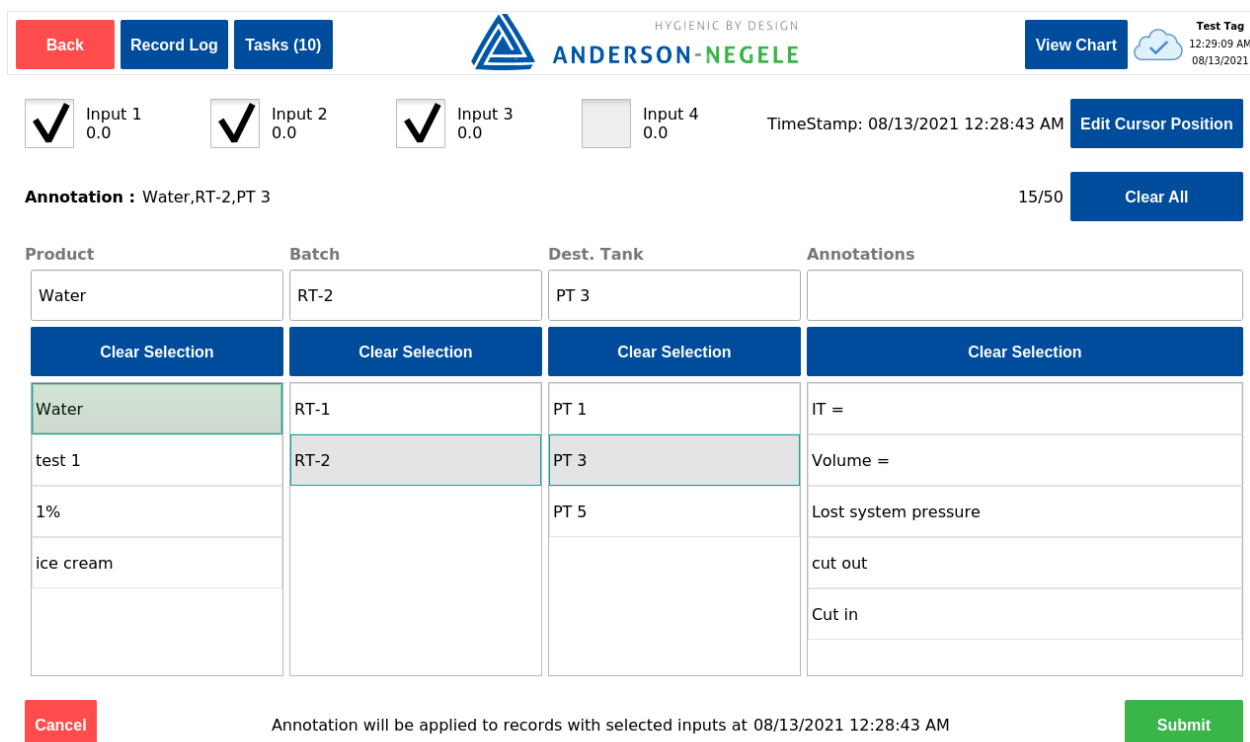

Figure 47: Selecting Multiple System Info Fields for Single Annotation
- a. In Figure 47 above the annotation will read “Water,RT-2,PT-3” followed by the initials of the user who submits